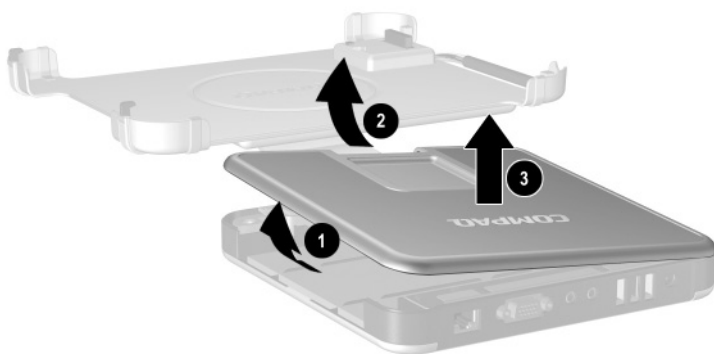

Figure 5-31. Removing the Top Case
4. Lift the left rear edge of the top case ❶ until the rear edge of the case ❷ disengages from the bottom case (Figure 5-31).
5. Remove the top case ❸.